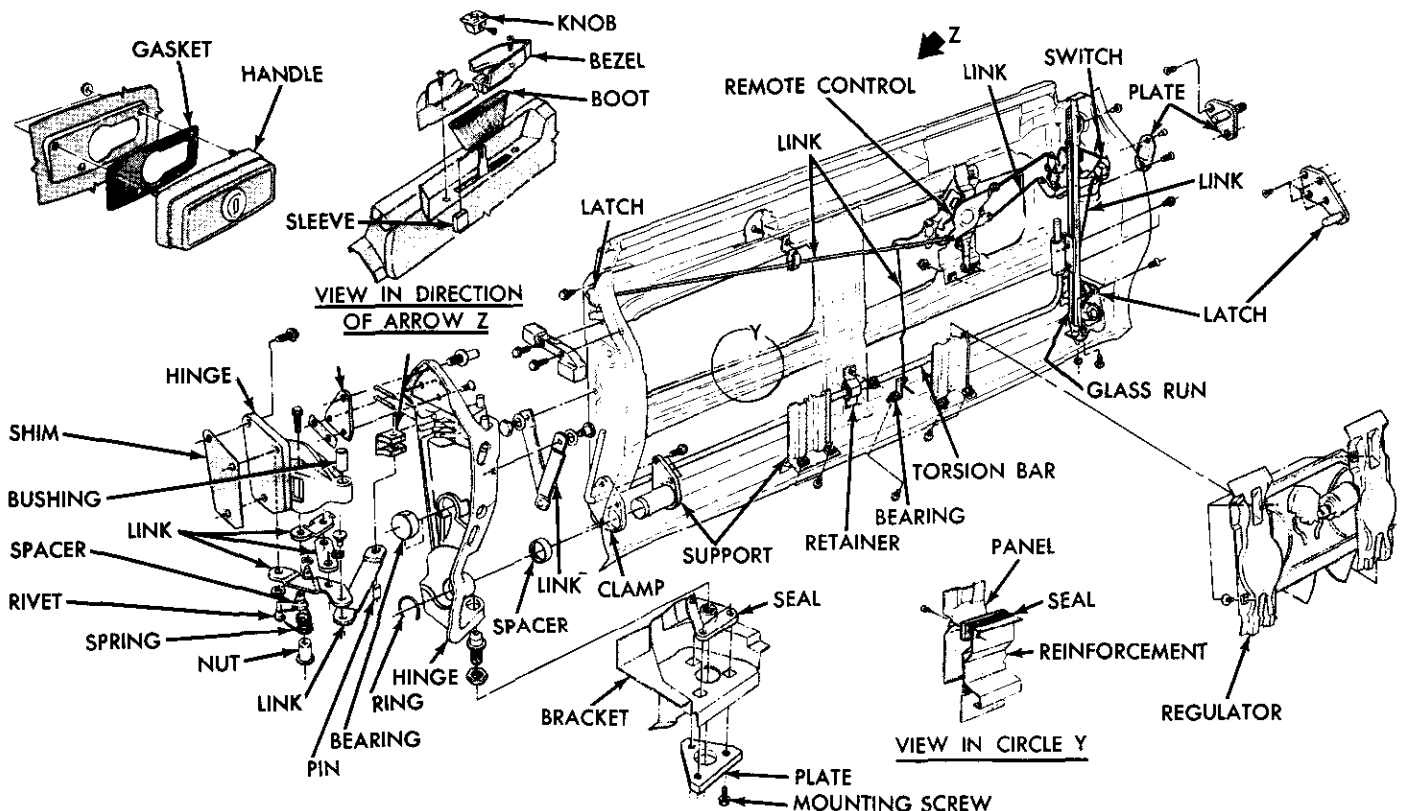

Fig. 65—Tail Gate Application
Vertical adjustment and in and out adjustment are made at the hinge plate (Fig. 65). In and out alignment of the tail gate top is adjusted by moving the striker in or out to permit ease of entry of the tail gate glass into the upper run channel. Lateral adjustment to center the tail gate in the body opening is controlled at the hinge.
- (1) Remove check arm and torsion bar guide from pillar guide plates.
- (2) Support tail gate on jacks or stands.
- (3) Loosen hinge pivot pin locking screws.
- (4) Use a pencil and outline hinge plate position on pillar post for future assembly.
- (5) Remove hinge plate attaching bolts from pillar post (Fig. 65).
- (6) Slide hinge plate and torsion bar in through guide toward center of tail gate.
- (7) Lower tail gate down and out of body opening.
To replace the lock assembly (Fig. 65), it is first necessary to remove the glass and runs. The lock assembly is retained on ends of tail gate by screws.
- (1) Lubricate torsion bar at right hinge and bearing areas.
- (2) Install hinge on torsion bar and insert bar into tail gate.
- (3) Position hinge on tail gate, install and tighten screws 30 foot-pounds.
- (4) Install bearing and retainer on torsion bar (Fig. 65). Tighten nut 95 inch-pounds.
- (5) Position clamp over end of torsion bar and from outside end of tail gate install and tighten screws 200 inch-pounds.
- (6) Install trim panel.